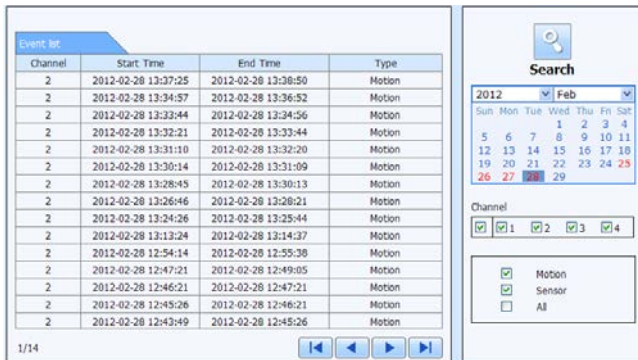

Fig 8-7 Event Search Interface
Step1: Enter into Search → Event Search. Refer to Fig 8-7: